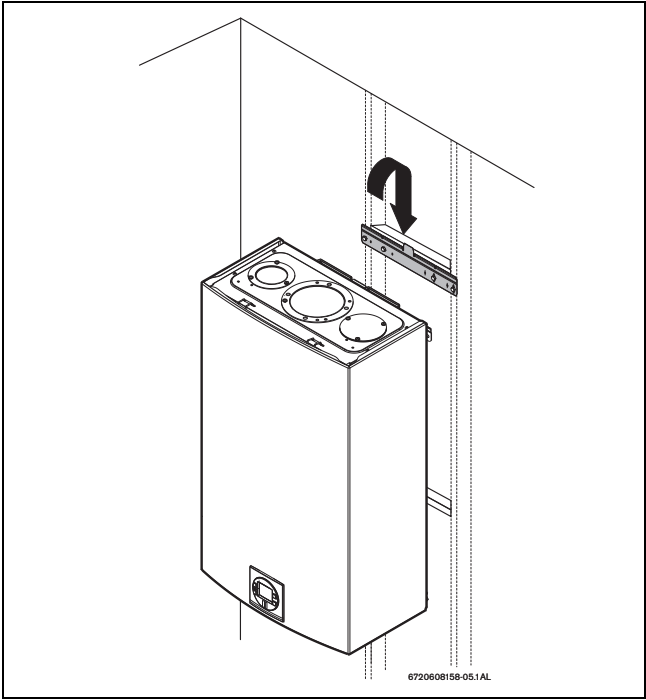

Fig. 33 Mounting the heater
- ▶ Hang the appliance on the bracket, see fig. 33, page 30.